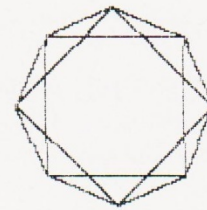

Fig. 23
- PROCC3 (2400-2490) When alternate points are joined to form two squares, the squares taken together form an eightpointed star; see Figure 23.